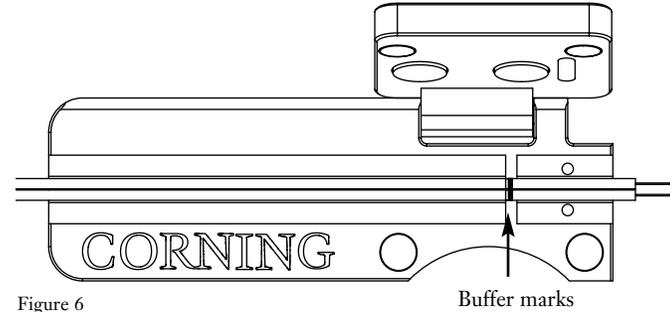

Figure 6
5.5 Using the two pins as a guide, place the fibers into the groove in the handler. The bare fiber should not contact the handler – only place coated fiber in the groove (Figure 6).
5.6 Verify that the ends of the fibers' coatings are still aligned, and position the fibers in the handler, such that the buffer marks fall within the indicated alignment slot (Figure 6).